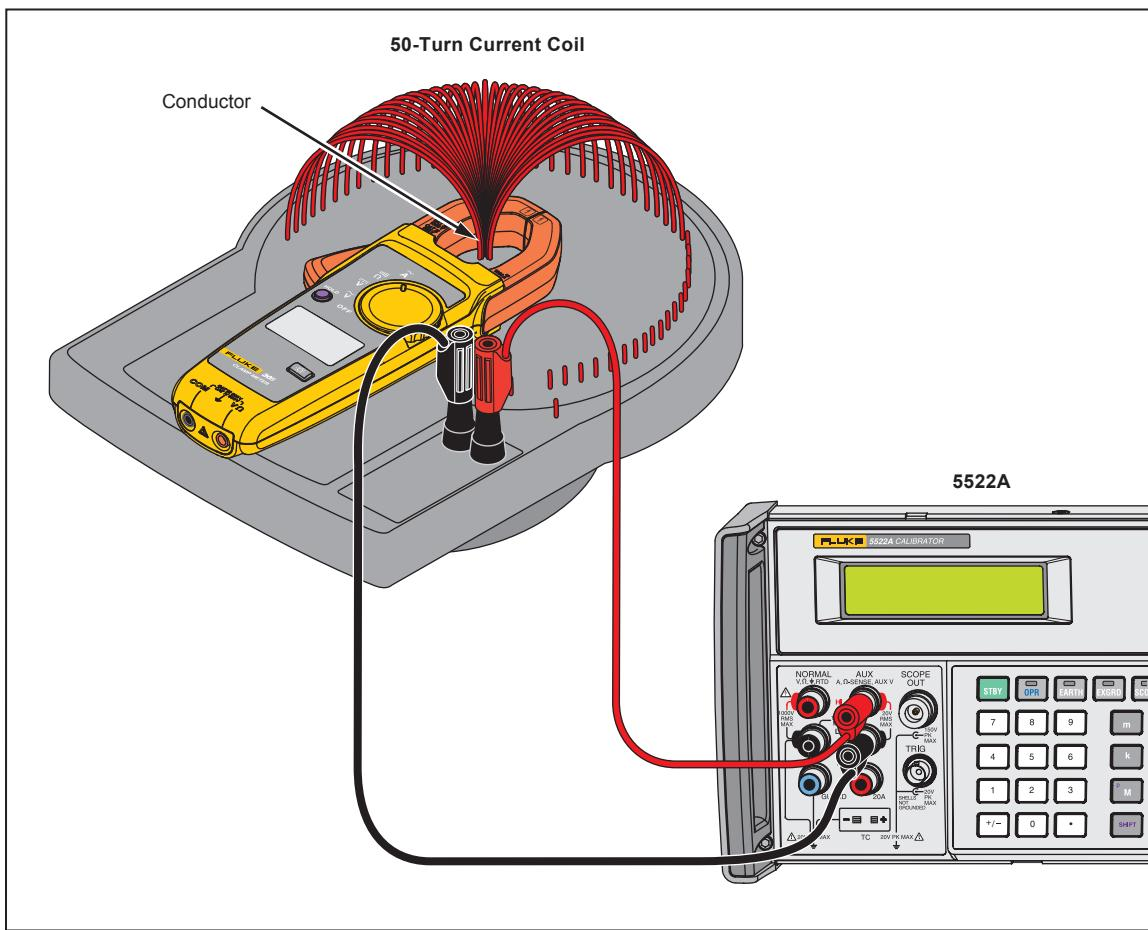

Figure 4. AC Current Test Connections
1. Connect the Calibrator A ac output and ground to the 50-Turn Coil. See Figure 4 for test connections.